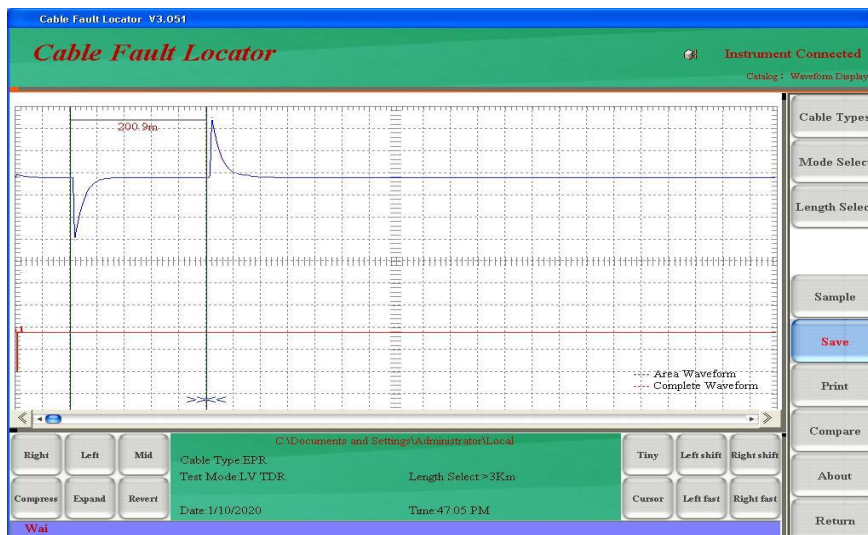

Fig 6-4
B. After completing the equipment parameter settings, click the "Sampling" button, and the screen will enter the test and waveform processing interface. The instrument will automatically perform low-voltage pulse test sampling. The operator should adjust the "Vertical Displacement" and "Input Amplitude" knobs according to the waveform needs, and observe the sampling. The echo is received so that the waveform does not have upper and lower amplitude limits until the amplitude and displacement of the echo are suitable for analysis. As shown in Figure 6-4.